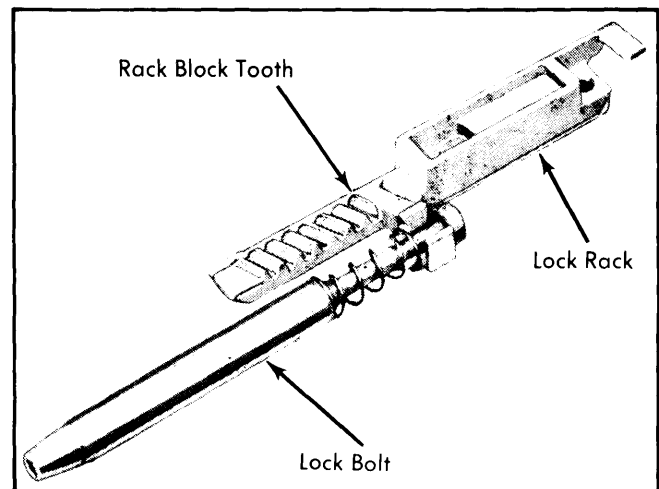
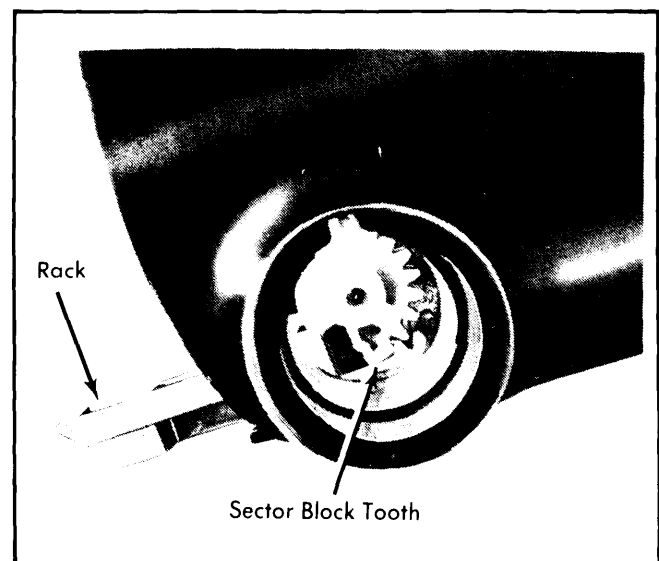
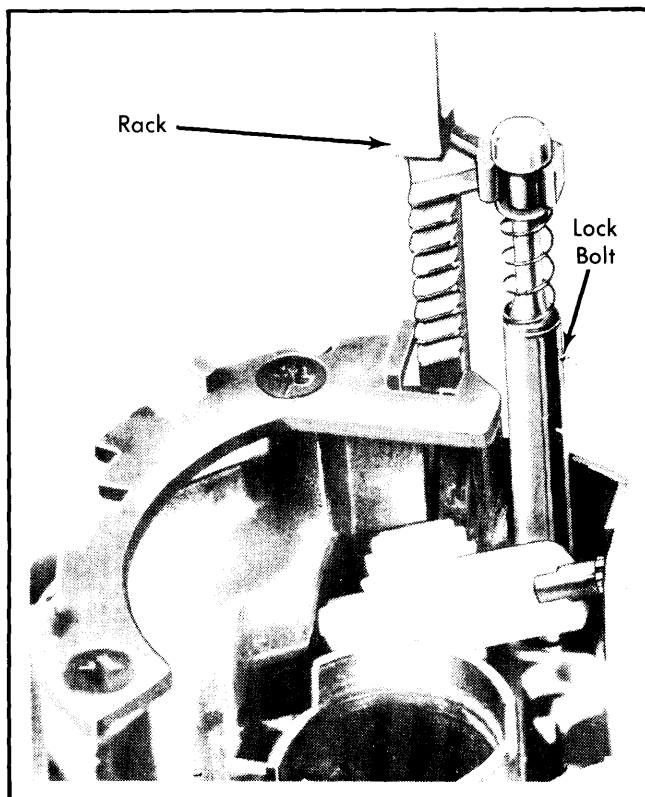

Fig. 4 Assembly Lock Bolt and Lock Rack
Fig. 5 Installing Lock Bolt and Lock Rack
Fig. 9 Installing Lock Rack and Bolt into Shift Bowl
2) Install rack preload spring. Make sure bowed side of preload spring is against lock rack. Assemble lock rack and lock bolt as shown in illustration (see Fig. 4).
3) Install assembled lock bolt and lock rack in housing. Make sure block tooth of lock rack is mated with block tooth of sector as shown in illustration (see Fig. 5).
6) Assemble lock bolt and lock rack (see Fig. 4). Install lock bolt and lock rack in column (see Fig. 9). Make sure block tooth of lock rack engages block tooth of sector (see Fig. 5).